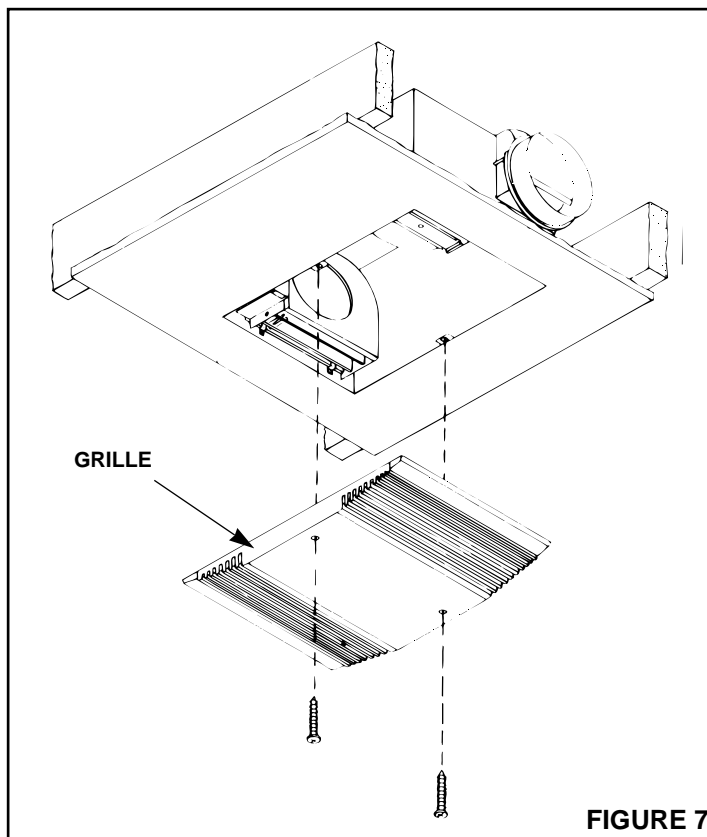

FIGURE 7
1. Refer to Figure 7. Using two screws (provided), secure grille to housing.